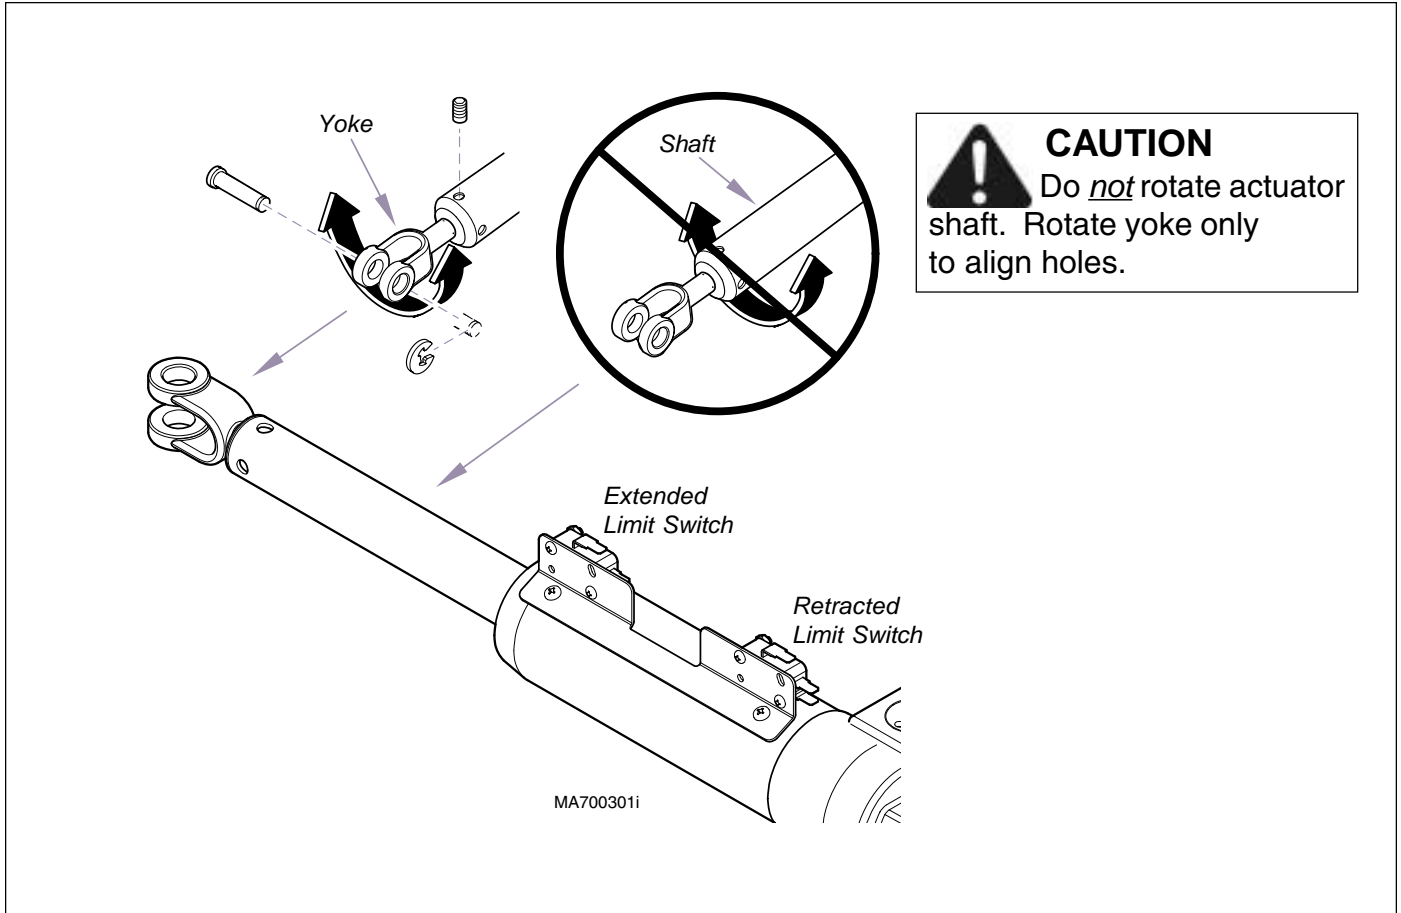

Figure 4-19. Tilt Actuator
Do not manually turn actuator shaft by hand (Figure 4-19). Doing so could result in misalignment of internal limit switches. Turn yoke only to align mounting holes.
- Secure yoke (Figure 4-19) in position by tightening two setscrews.